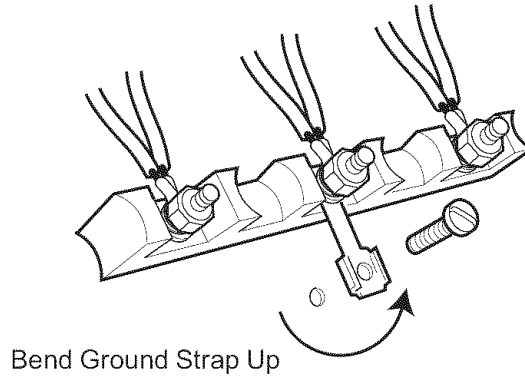

Figure 13: Ground Strap
2. Remove ground strap screw and bend the strap up as shown in Figure 13.